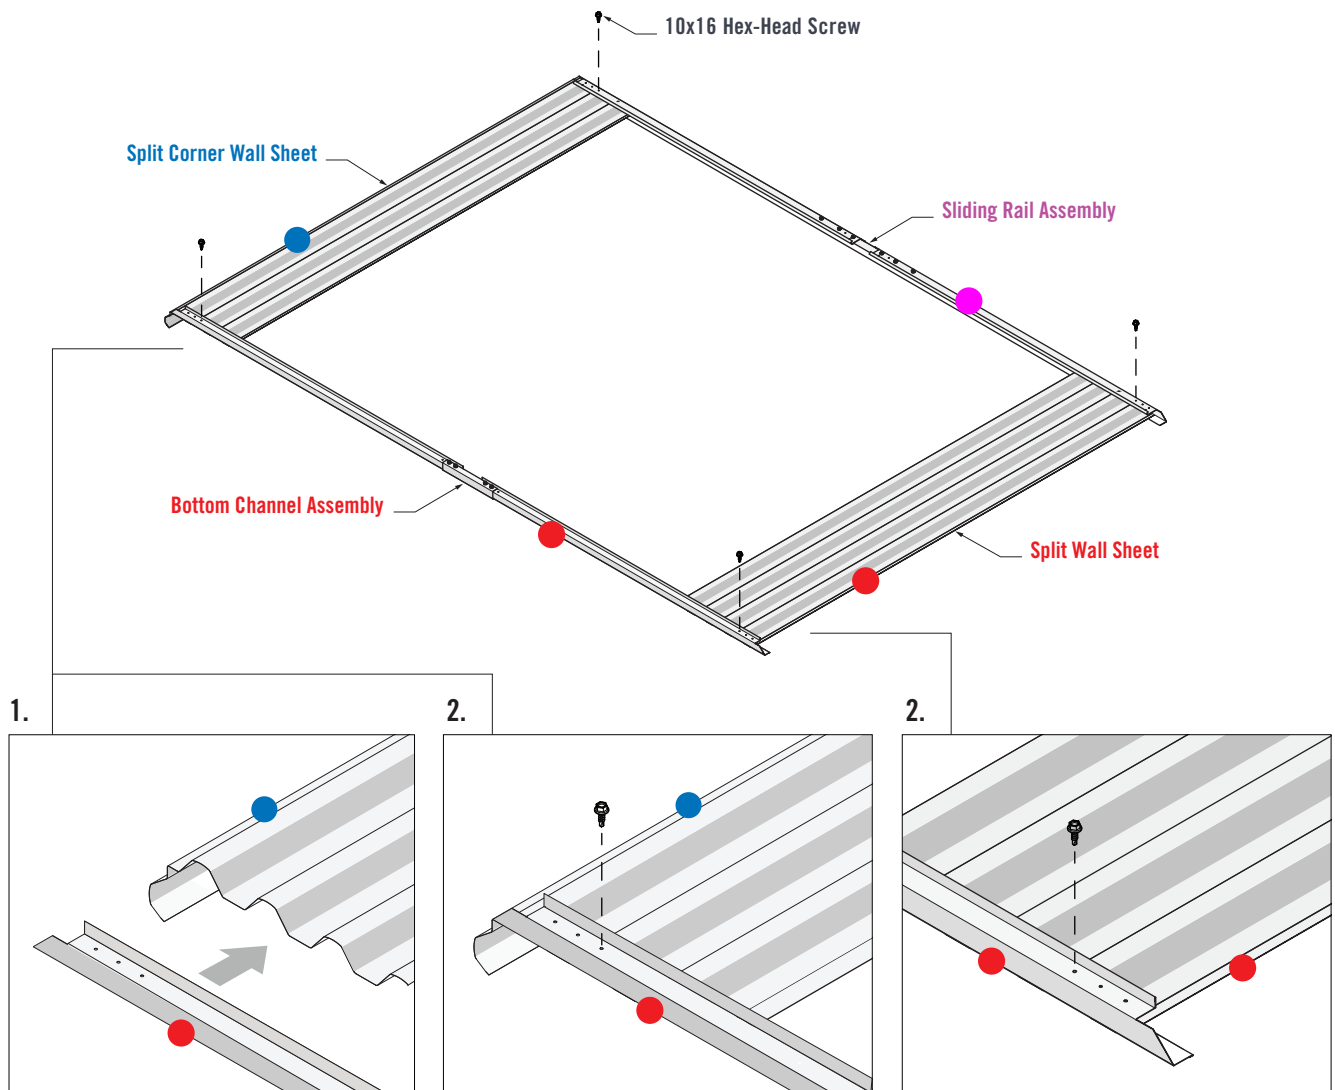

FIGURE 5.2
1. Fit the **Bottom Channel Assembly** and **Sliding Rail Assembly** over the Wall Sheets. The end of the Channels should fit up against the ends of the **Split Corner Wall Sheet** (Figure 5.2).
2. Fasten one 10x16 self-drilling screw through the third pilot hole of the **Bottom Channel** and into the corresponding Wall Sheet crest at both ends. Fasten another 10x16 self-drilling screw through the third pilot hole of the **Sliding Rail** and into the corresponding Wall Sheet crest at both ends (Figure 5.2).